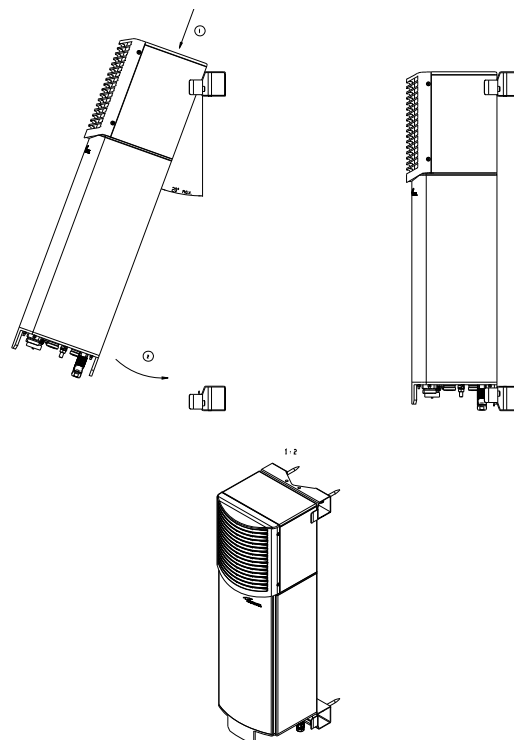

figure 3-3 RU wall mounting
- Hang the Remote Unit into the upper mounting bracket at a slight angle and let it move smoothly towards the wall so that it engages firmly into the brackets (see *figure 3-3 RU wall mounting*). Then, screw the unit to the lower mounting bracket using 2 of the M8x25 screws that are part of the delivery (4 are provided).